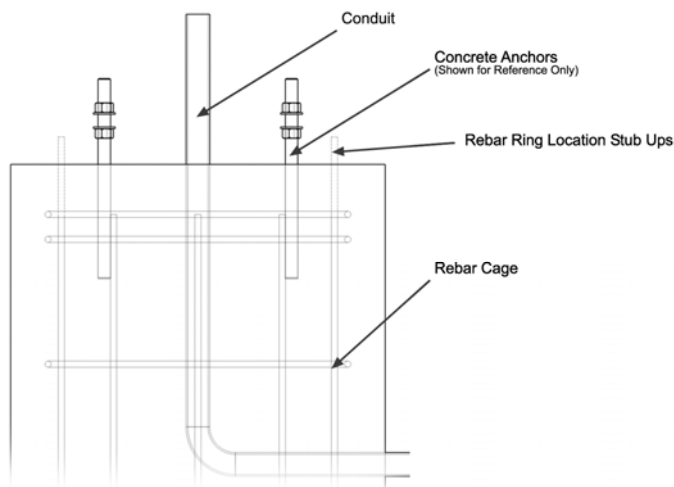

FIGURE 4.0
1. Footing/Foundation Details; the recommended pile depth is 168" with the top 72" encased in a sonotube or an equivalent product. If the conduit for the gate is being run through the footing the conduit should extend out of the footing by 12". The material ½" reinforcing steel, 10 pieces x 164" Vertical and 15 pieces 24" diameter ring with double rings on top of cage. The rebar cage should be 4" below the top of the footing. (see figure 4.0) To ease the drilling of the anchor holes 4 thin rods should be used at four equal points around the rebar cage 'rebar ring location stub ups' that extend beyond the footing so that location of the rebar rings can easily be located.